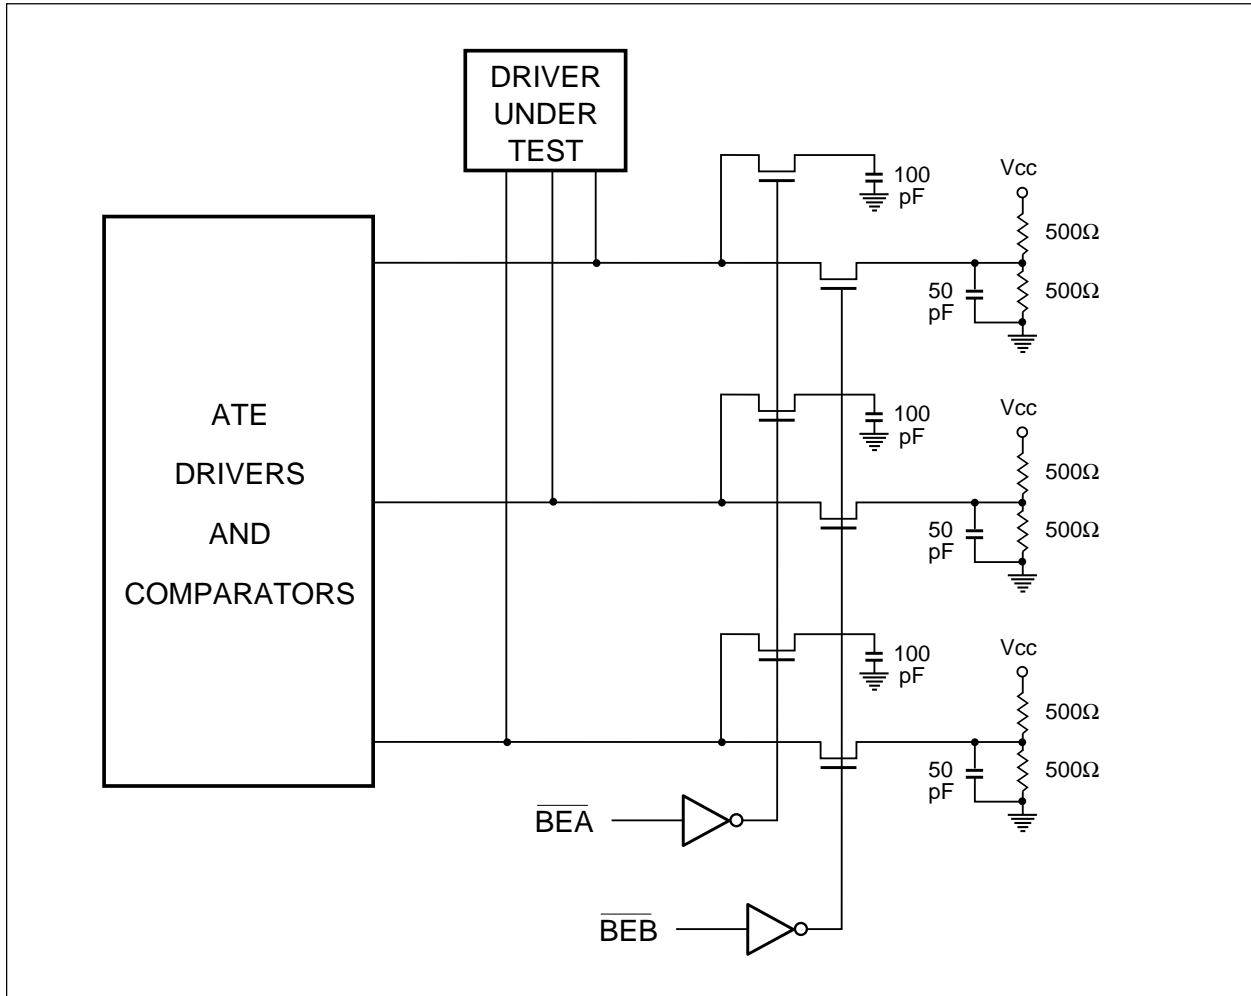

Figure 19. ATE Load Switch using Pericom's PI5C3384 Bus Switch.
- ATE Load/Driver Switch:** Automated test equipment needs to test an output driver of a Device Under Test for different test loads. The bus switch allows the tester to switch to a new test load and isolate the old test load for an output pin (see Figure 19). The bus switch also allows a tester to select a different driver to drive an input pin.